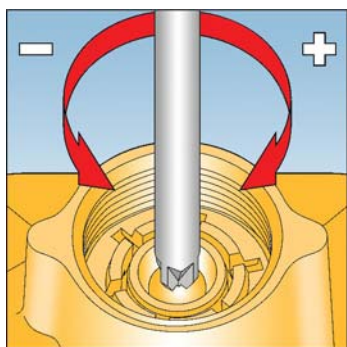

Fig. 7
- 8) If UPSS fitted, insert a pozidriv screw driver (No.2 point) into UPSS adjusting screw in bottom spring holder. See Fig. 7.
- 23) Slowly turn UPSS adjusting screw clockwise (+) until UPSS device trips off. See Fig. 7.